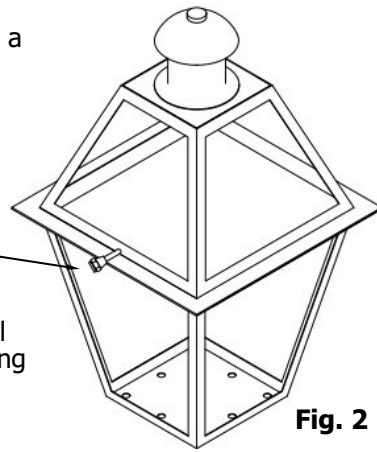

Fig. 2
2. Remove lantern from packing and assure that the gas line is extended from the side with a 1/4" male flare fitting attached. Figure 2.